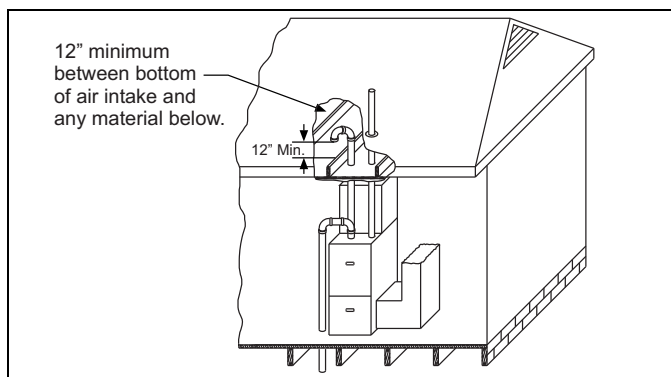

FIGURE 40: Attic and Crawl Space Combustion Air Termination
3. **VENTILATED COMBUSTION AIR:** Combustion air is supplied through a PVC or ABS pipe that is connected to the PVC coupling attached to the burner box and is terminated in a ventilated attic or crawl space. The combustion air and the vent pipes are not terminated in the same atmospheric zone. Refer to Figure 40 for attic and crawl space termination. Only the combustion air intake may terminate in the attic. The vent must terminate outside.
Refer to Figure 40 for required attic termination for the combustion air intake pipe. For attic termination, use two 90° elbows with the open end in a downward position. Be sure to maintain 12" (30.5 cm) clearance above any insulation, flooring or other material.